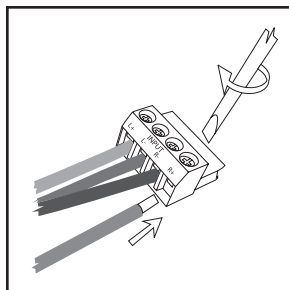

Figure 4
- 2.) Insert each wire from the amplifier into the proper L+, L-, R+ or R- input terminal and use a small screwdriver to tighten each screw; see Figure 4. Make sure to observe proper polarity for each connection.
- 3.) Insert each wire from the speakers into the proper L+, L-, R+ or R- output terminal and use a small screwdriver to tighten each screw; see Figure 4. Make sure to observe proper polarity for each connection.